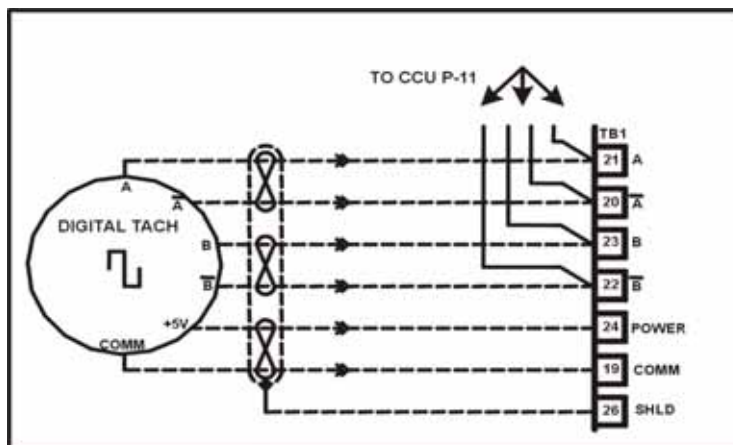

Figure 2-13
2. Connect the encoder cable appropriately and ensure that the cable is routed through a separate metal conduit. [See Figure 2-13.]
[See Figure 2-13.]
7. Run the car in the UP direction. Verify that the VIC direction arrow is in the same direction. Do the same for the DOWN. The VIC direction comes from the motor encoder. To change the direction, swap the Encoder wiring to the CCU as follows: A and A-bar or B and B-bar. [See Figure 2-13.]